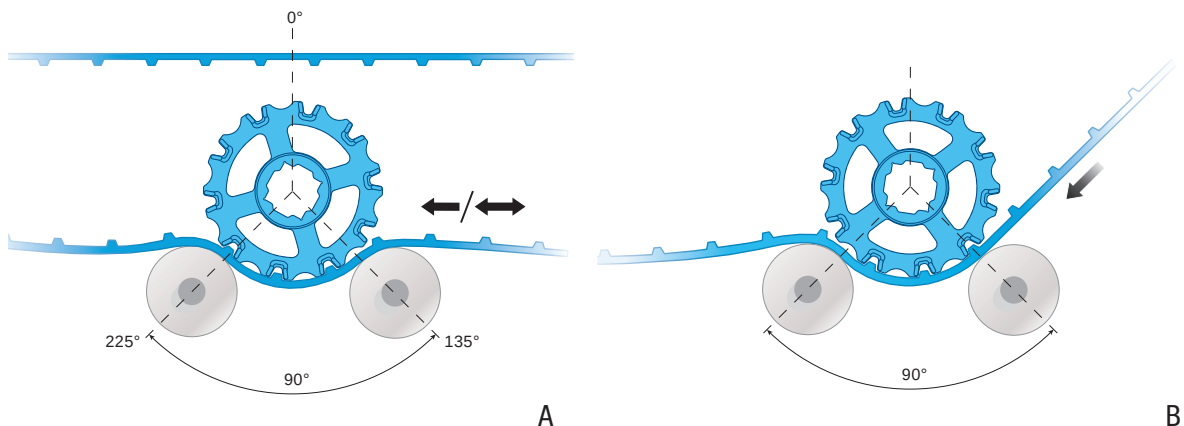

Figure 18
- ◇ For a bi-directional drive, place roller limiters at the 135° and 225° positions from top center (Figure 18, A).
- ◇ For a uni-directional drive with the drive near the discharge end, place one roller limiter where the belt should first contact the sprockets. Then, place a second roller limiter 90° from the first (Figure 18, B).